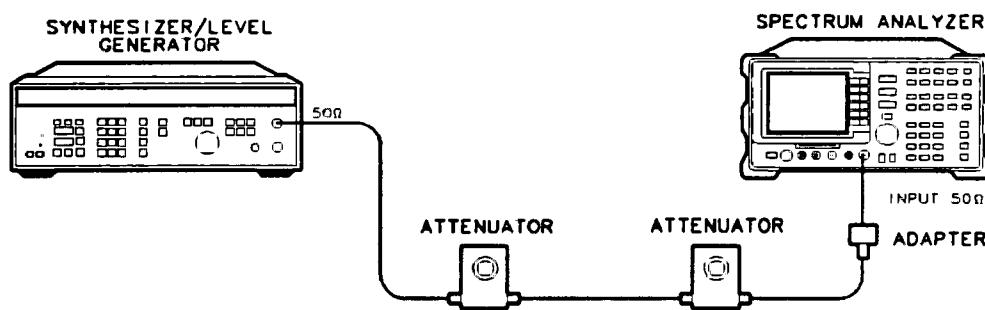

Figure 4-8. Scale Fidelity Test Setup
- Connect the equipment as shown in Figure 4-8. Set the HP 355D to 10 dB attenuation and the 355C to 0 dB attenuation.